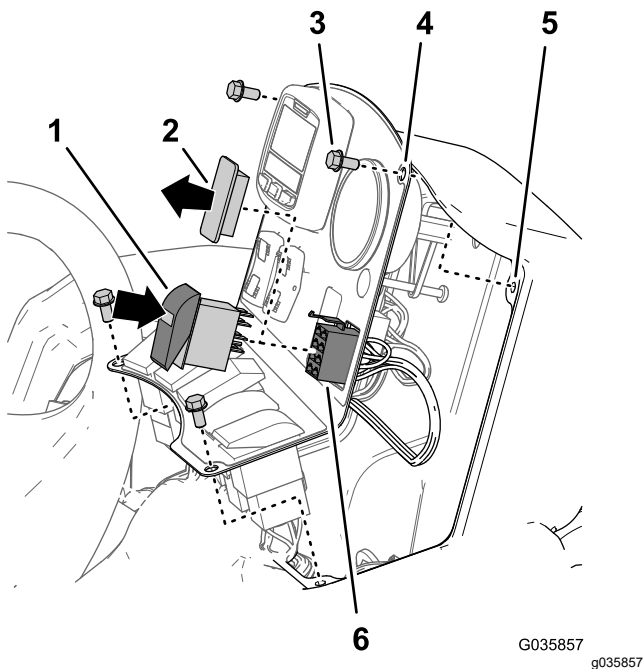

Figure 36
1. If installed, remove the 4 flange-head bolts (1/4 x 1/2 inch) that secure the control panel to the console as shown in Figure 36.
2. Remove the switch plug from the control panel of the console (Figure 36).
3. Align the 8-socket connector of the wiring harness of the ultra sonic boom finishing kit through the opening in control panel (Figure 36).
4. Connect the 8-socket connector of the wiring harness of the ultra sonic boom finishing kit labeled SONIC MODE MANUAL VS. AUTO to the rocker switch (Figure 36).
5. Insert the rocker switch in the control panel opening until the switch snaps securely (Figure 36).
6. Align the holes in the control panel to the holes in the top of the console (Figure 36).
7. Secure the panel to the console with the bolts (Figure 36) that you removed in step 1.